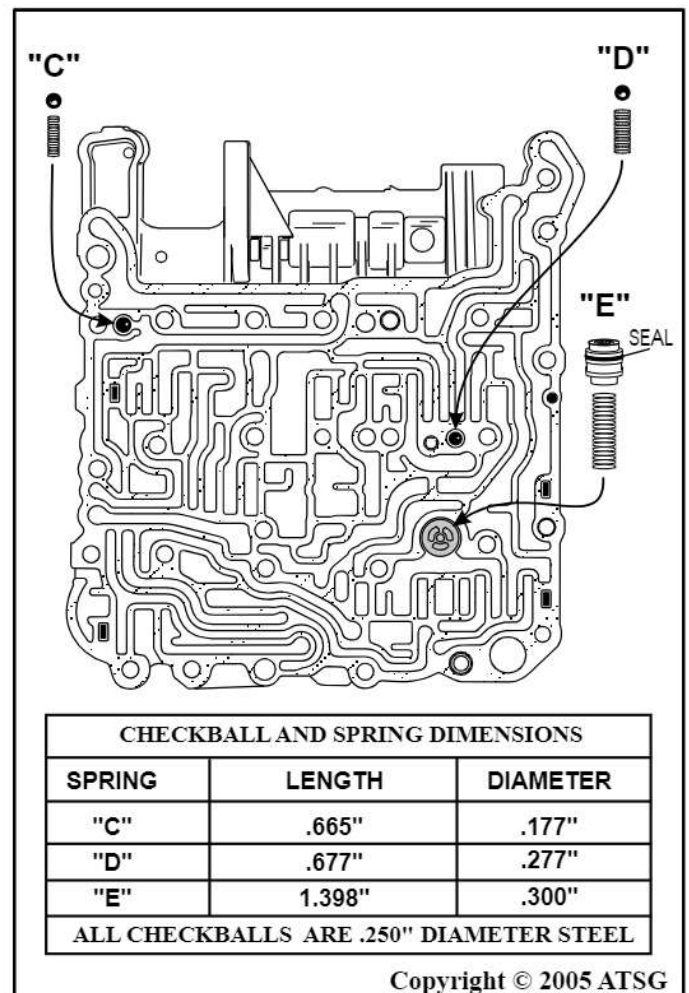

Figure 146
20. Lay the assembled main valve body on a flat work surface, as shown in Figure 146.
21. Install the "C" check ball and spring with the spring going in first, as shown in Figure 146.
22. Install the "D" check ball and spring with the spring going in first, as shown in Figure 146.
23. Install new seal on the damping valve "E" and install assembly with the spring going in first, as shown in Figure 146.
Note: Spring and check ball dimensions are shown in Figure 146.